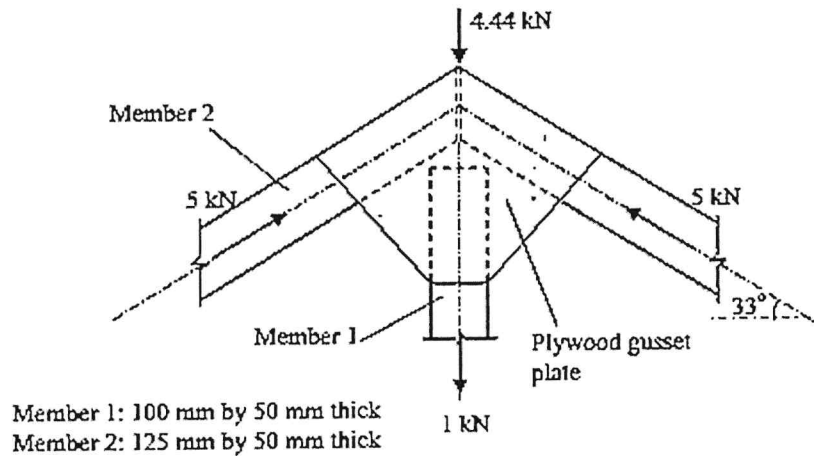

Figure Q3b
- (b) A timber-plywood gusset plate apex joint for the connection shown in **Figure Q3b** is to be designed using 12-mm-thick Finnish birch plywood with a characteristic density of 630 kg/m3 and fixed with the face grain horizontal. The joint fasteners are 3.50 mm diameter by 55 mm long smooth round wire nails, fixed without pre-drilling, with a tensile strength of 650 N/mm2 and act in single shear. The timber members are strength class C18 to BS EN 338:2003 and the sizes are as shown in **Figure Q3b**. The joint will function under service class 2 conditions. The joint is subjected to design loading as shown, arising from a combination of permanent and medium-term variable actions. You are required to determine the Embedment strength of timber  $f_{h,k}$ , Yield moment of a nail  $M_{y,Rk}$  and the Withdrawal resistance  $F_{ax,Rk}$  required for the determination of Load-carrying capacity of connection. Also check for the strength of plywood gusset plates. (15 marks)